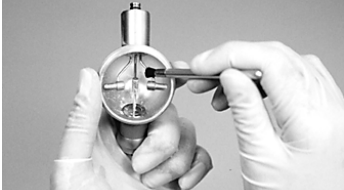

Fig.9
- ⑥ Clean the powder case body with the supplied brush. (Fig. 9)